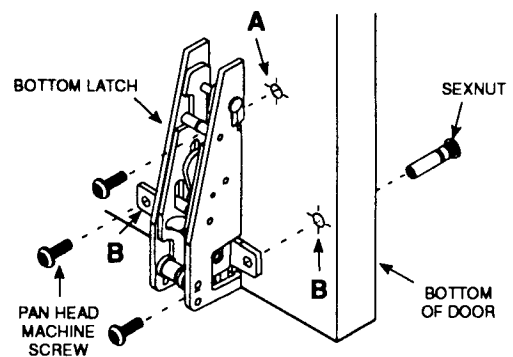

Figure 12
- B. Install bottom latch using two pan head machine screws and two sexnuts in holes marked B and one pan head machine screw or tapping screw in hole marked A (Figure 12).